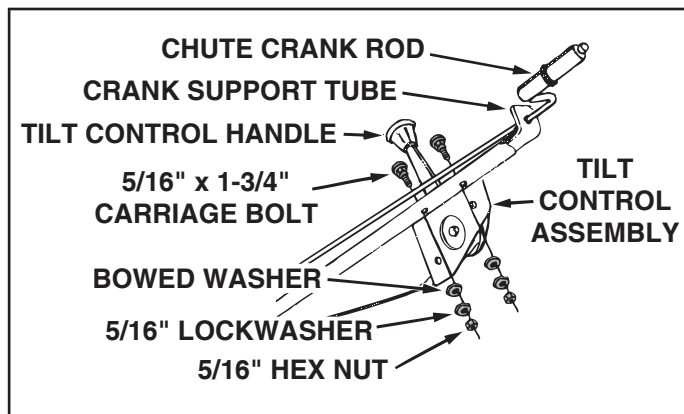

FIGURE 17 LEFT SIDE VIEW
- Attach the chute tilt control assembly to the top side of the crank support tube using two 5/16" x 1-3/4" carriage bolts, bowed washers, 5/16" lock washers and 5/16" hex nuts. See figure 17.